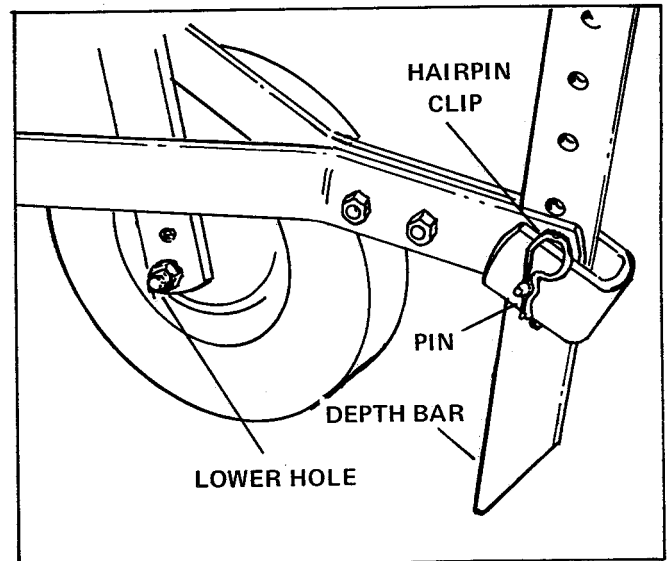

Figure 6.
b. See Figure 6. Secure each wheel assembly (bushing inward) to frame through lower holes in frame support with a 3-1/2-inch long shoulder bolt, lockwasher, and hex nut. Tighten hex nut.
7. See Figure 6. Secure depth bar and clamp to rear of frame with pin and hairpin clip. Digging tip of bar should be installed as shown.
See Figure 6. Be sure wheels are mounted in the LOWER holes of the frame support. If required, adjust wheel scraper 1/8-inch above tire.
See Figure 6. The depth bar setting determines the depth of tilling. To till 4 to 6 inches deep, install the bar mounting pin in the second or third hole from the TOP. Pull out the hairpin clip to change pin location. Be sure to install the bar with the digging tip as shown. THE DEEPER THE DEPTH BAR IS SET INTO THE SOIL, THE DEEPER THE TINES WILL DIG.